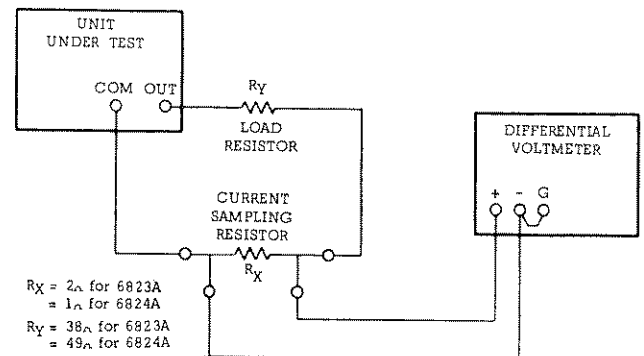

Figure 5-3. Output Current, Test Setup
- Connect test setup shown in Figure 5-3.